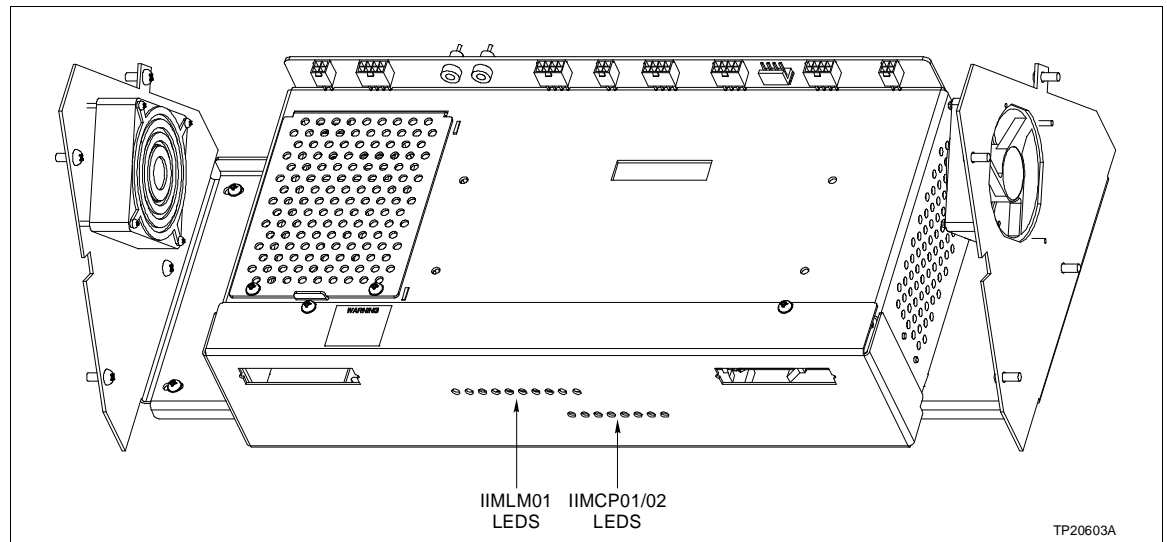

Figure PR49-1. Diagnostic LEDs
1. The diagnostic LEDs are viewable through holes in the NIU front cover (Fig. PR49-1).